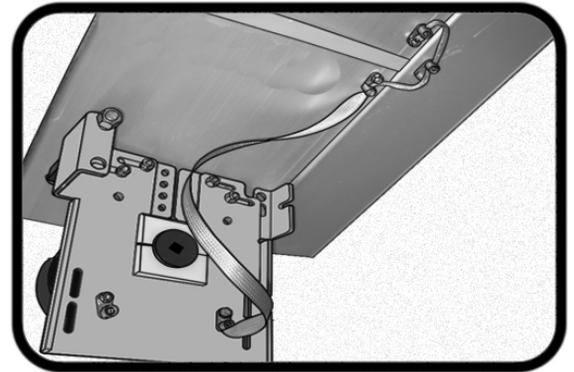

Fig. 10
**Step 9:** Lace the slack Bonding Wire from the lid to the Bonding Lugs attached to the mechanism ends in *Step 8*, as shown at right. *(Fig. 10)* Use a screwdriver to tighten the lugs around the Bonding Wire.